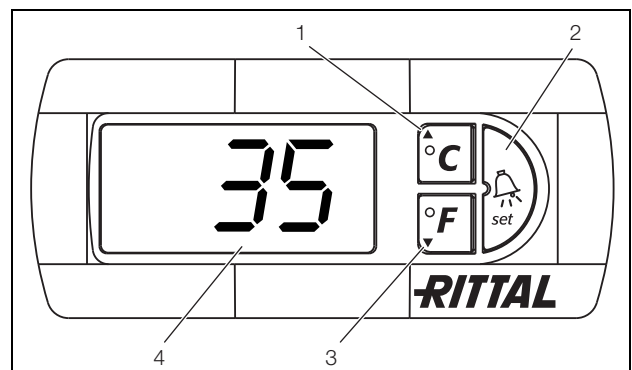

Fig. 14: e-Comfort controller
The cooling unit operates automatically, i.e. after switching on the power supply, the evaporator fan (see fig. 2) will run and circulate the internal enclosure air. The compressor and condenser fan are regulated by the e-Comfort controller. The e-Comfort controller has a 7-segment display (fig. 14, item 4). After switching on the power supply, the current software version initially appears on this display for approx. 2 seconds, followed by a preset option (e.g. t10) or the temperature.
The unit is programmed using buttons 1 – 3 (fig. 14). The relevant parameters also appear in the display.
- Simultaneously press buttons 1 and 2 (fig. 14) for at least 5 sec.
Using buttons 1, 2 and 3 (fig. 14) you can change 24 parameters within the preset ranges (min. value, max. value).